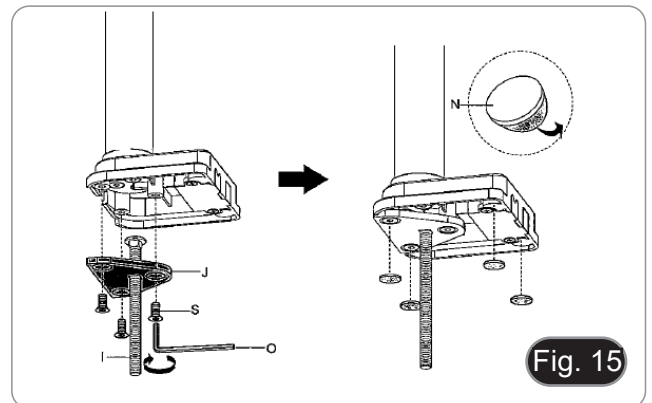

Fig. 15
3. Insert the screw (I) into the fixing plate (J).
4. Tighten the fixing plate using the three screws (S). (Fig. 15)
5. Stick the rubber dampers (N) to the table clamp.